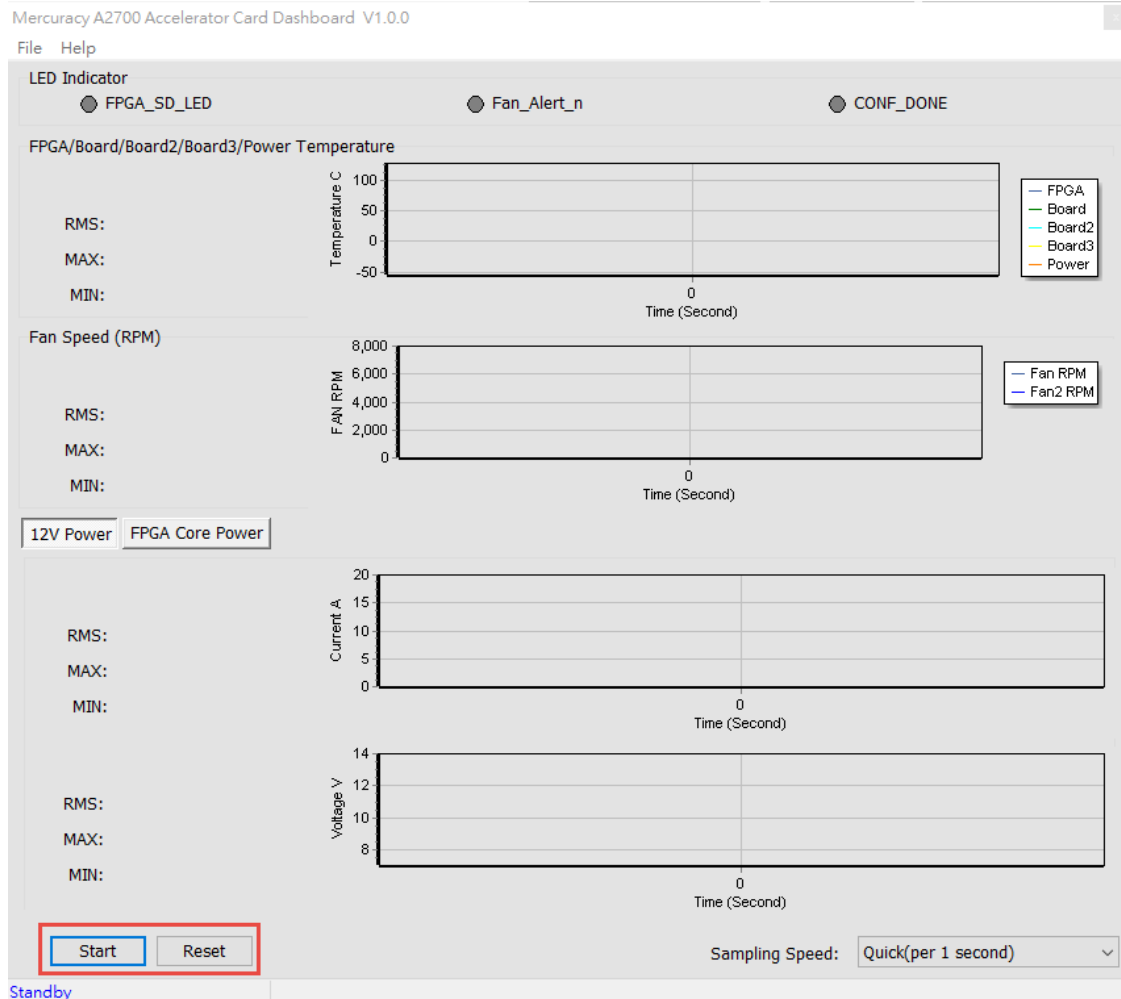

Figure 4-7 Start and Reset button
- **Start/Stop:** As shown in **Figure 4-7**, there is a Start button at the bottom-left of the GUI window. Click it to run the program (Start will change to Stop), it will show the Mercury A2700 Accelerator Card status. Users can press Stop button to stop the status data transmission and display.